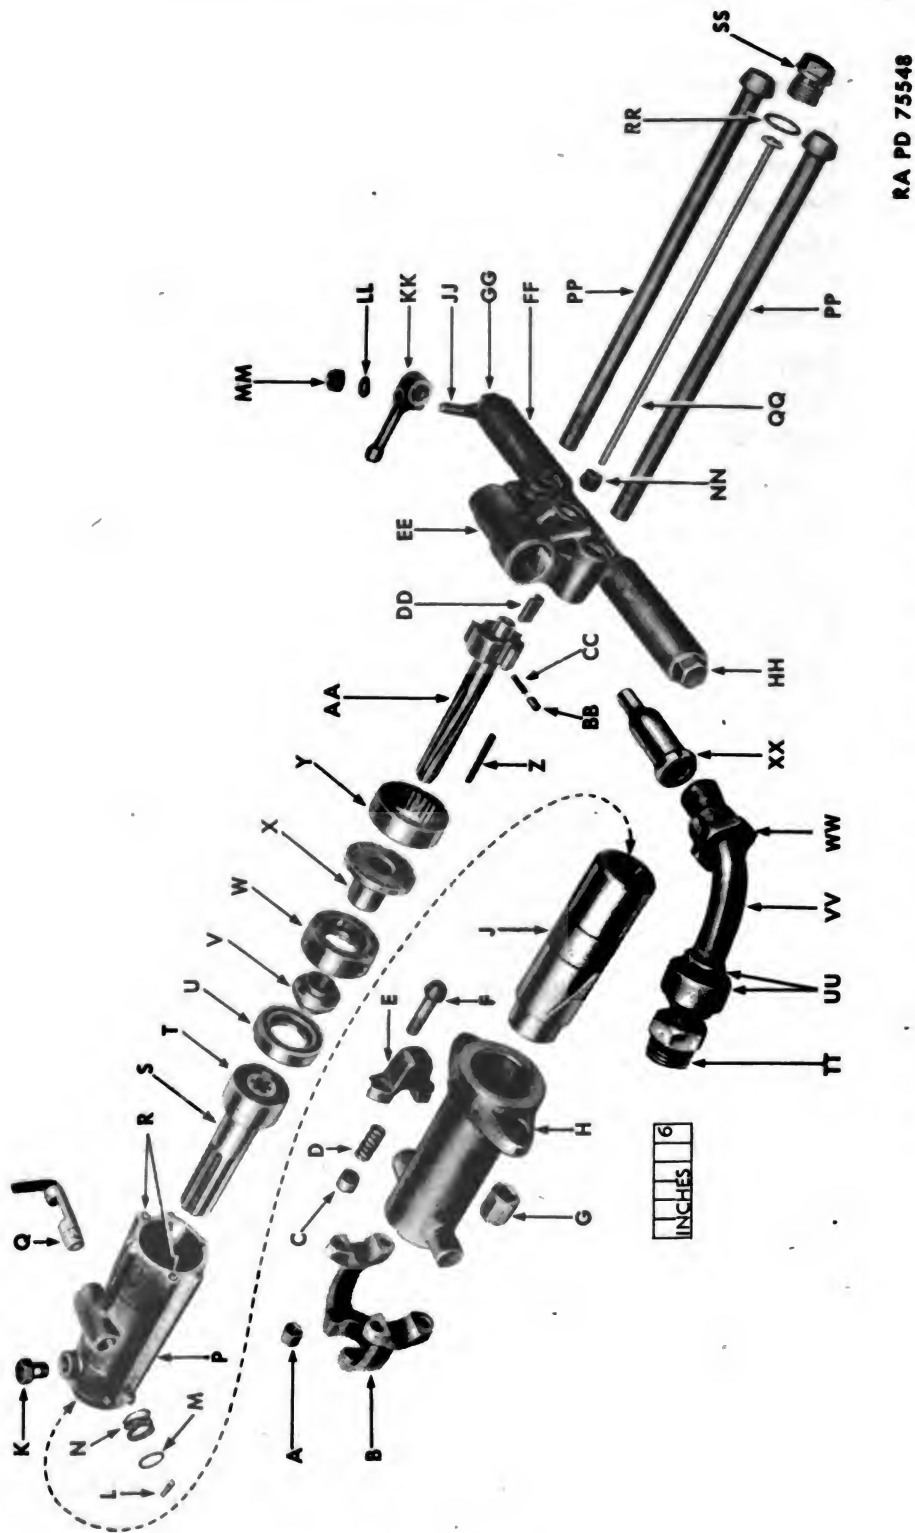

Figure 62 — Pneumatic Rock Drill — Exploded View
a. Disassembly (fig. 62).
(1) Screw water tube plug from back head. Lift plug, gasket, air tube, and water tube packing from back head.
(2) Remove both side rod nuts and side rods from front head and back head. Lift back head from cylinder. If necessary, back head plate can now be driven from back head with brass rod inserted through water tube plug hole.
(3) Screw air inlet swivel nut from its boss in back head. Lift swivel and nut from back head. Screw female part of air screen housing from male portion. Remove lock ring and air screen from male part.
(4) Screw throttle valve detent plug from back head. Lift out throttle valve detent plunger and spring and plunger. Remove throttle valve handle nut, lock washer, and bolt. Slide handle off throttle valve. Slide throttle valve out of back head through air inlet opening.
(5) Remove handle bolt nut and washers. Withdraw handle bolt. Remove both rubber grips from handle.
(6) Withdraw rifle bar from ratchet ring. Slide rotation pawls from pawl slots in rifle bar. Be careful to keep from losing pawl plunger and pawl spring which fly out when each pawl is removed.
(7) Lift front head from cylinder. Remove chuck driver from rear of front head. Remove the four steel retainer nuts and bolts. Remove steel retainer and both steel retainer caps. Empty steel retainer lock plunger and steel retainer spring from each cap.
(8) Push piston hammer as far back in cylinder as it will go. Place hardwood block against end of piston hammer and tap gently until complete valve chest assembly can be picked from top of cylinder.
(9) Lift piston hammer from top of cylinder. If necessary to remove rifle nut from piston hammer, place piston hammer in soft-jawed vise. Place rifle bar in rifle nut and turn clockwise with a strap wrench. Use extreme care to keep from damaging parts. Do not remove rifle nut unless replacement of nut or piston hammer is necessary.
(10) If necessary to remove cylinder front bearing, use a hardwood or brass rod and drive bearing from front of cylinder.
(12) Depress exhaust valve spring. Remove exhaust valve retainer pin, washer, and spring. Withdraw exhaust valve from its lug on cylinder.
b. Assembly (fig. 62).
(1) Insert exhaust valve into its lug on cylinder. Place exhaust valve spring on protruding end of valve. Depress spring and install exhaust valve washer and retainer pin.
(2) Lubricate cylinder front bearing with GREASE, general purpose, No. 1, above +32 F or GREASE, general purpose, No. 0, below -32 F, and press into position in front of cylinder.
(3) Insert the two oil control felts in the two oil control plug holes in top of cylinder. Install the two oil control plugs. Install oil plug in side of cylinder.
(4) Screw rifle nut into top of piston hammer. Place piston hammer in soft-jawed vise. Place rifle bar in rifle nut. Using strap wrench on rifle bar, tighten rifle nut into piston hammer. Remove rifle bar from rifle nut and piston hammer from vise. Place piston hammer in position within cylinder.
(5) Install valve parts. Place front half of valve chest in position within top of cylinder. Place automatic valve in position on front half of valve chest. Place rear half of valve chest in place on automatic valve. Place valve guide plate in position on top of valve chest with flange extending down into valve. Place valve ratchet ring in position on valve guide plate. Make sure all holes for valve chest dowel pin are in perfect alinement. Tap valve chest dowel pin into position through ratchet ring, valve guide plate, and rear valve chest. *NOTE: Do not attempt to drive pin down flush with ratchet ring. End of pin extends into back head plate when assembly is completed.*
(6) Place steel retainer springs and steel retainer lock plungers in position in both steel retainer caps. Place caps in position on their bosses on front head. Place steel retainer in position on same bosses and install the four steel retainer bolts and nuts. Place chuck driver in position within front head.
(7) Insert a pawl spring and pawl plunger into position in its opening in rifle bar. Depress plunger and slide a rotation pawl into pawl slot in rifle bar. Repeat process to install other two springs, plungers, and pawls. Place rifle bar in position through top of ratchet ring.
(8) Slide both rubber grips into position on handle. Install handle bolt washer, handle bolt, other handle bolt washer, and handle bolt nut.
Legend for Figure 62 — Pneumatic Rock Drill — Exploded View
(1) After each day's use, pour about a tablespoonful of **SOLVENT**, dry-cleaning, into air inlet. Run drill about 15 seconds to flush out interior. Pour about a teaspoonful of **OIL**, engine, **SAE 10**, into air inlet. Run drill about 15 seconds. Wipe exterior of tool with cloth dampened with **OIL**, engine, **SAE 10**.
(2) Stow tool in a safe place when not in use. Do not leave air hose connected overnight.
(3) After each 25-hours' use, remove side rods and lift back head from cylinder. Remove the two oil control plugs (fig. 62) from top of cylinder. Remove oil control felts and wash in **SOLVENT**, dry-cleaning. Dry felts with an air blast. Clean cylinder with **SOLVENT**, dry-cleaning, and dry with an air blast. Blow strong air blast through all oilholes to be certain they are unobstructed. Install oil control felts, oil control plugs, back head, and side rods.